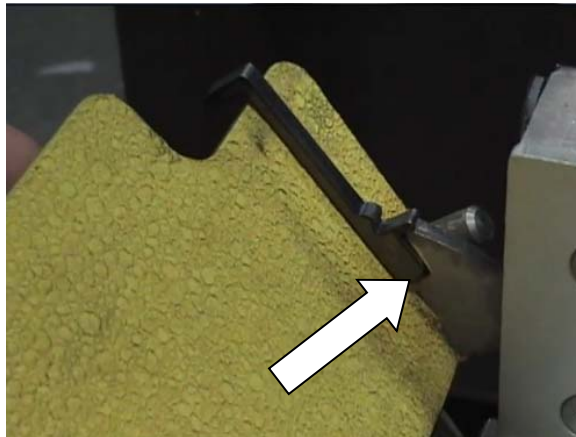

FIGURE 4-19: ROLLSTOP ADJUSTMENT TOOL
- 8) Refer to **Figure 4-19**. Place Rollstop Adjustment Tool into engagement hook of Rollstop.